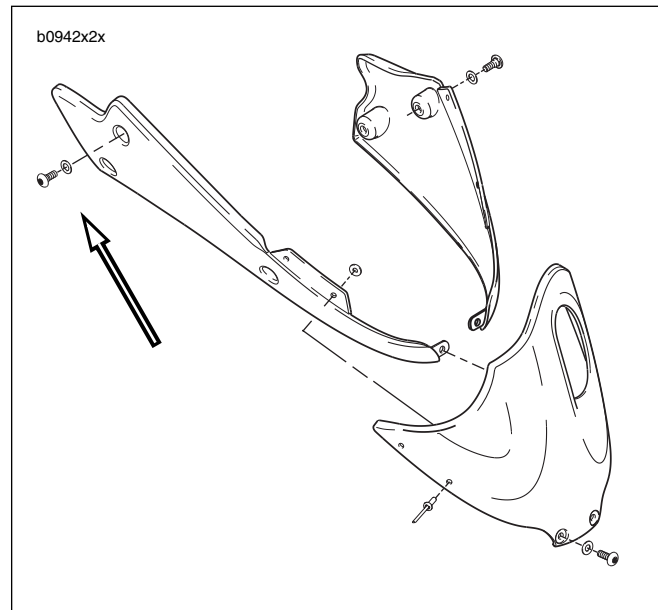

Figure 2-106. Chin Fairing Assembly, Right Rear Fasteners
1. See Figure 2-106. Remove back right chin fairing fasteners.